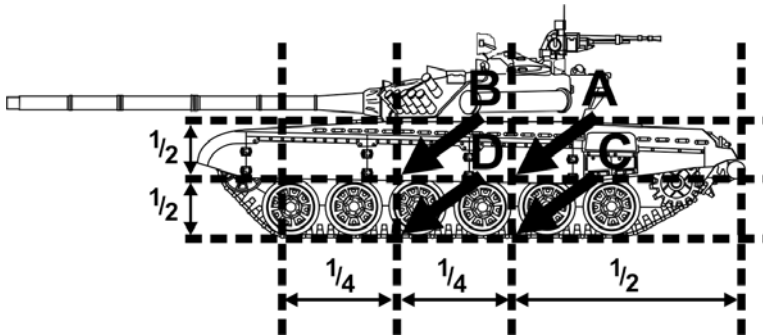

Figure 2-18: Point of Aim
17. Regardless of obscuration, cover or oblique movement, the point of aim is always based on the apparent width, traversing speed and range of the target. Vehicle speed is not its actual ground speed but rather its angular speed, i.e. how many mils it traverses each second. A vehicle traversing your field of view at a given speed will appear to be moving much slower the further the range is. In order to locate your point of aim, ignore the turret and divide the hull, or apparent width of the vehicle in the case of an oblique target, in half horizontally, and divide each half again (see Figure 2-18). The point